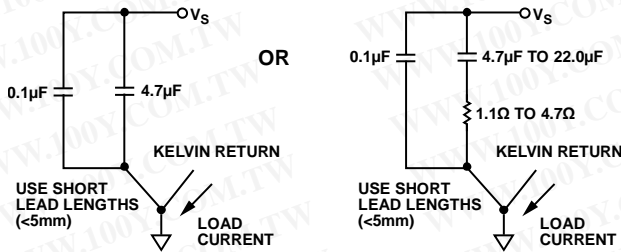

Figure 35. Recommended Power Supply Bypassing
*USE THE POWER SUPPLY BYPASSING SHOWN IN FIGURE 35.
Taking full advantage of the very wide bandwidth and dynamic range capabilities of the AD797 requires some precautions. First, multiple bypassing is recommended in any precision application. A 1.0 μF to 4.7 μF tantalum in parallel with 0.1 μF ceramic bypass capacitors are sufficient in most applications. When driving heavy loads, a larger demand is placed on the supply bypassing. In this case, selective use of larger values of tantalum capacitors and damping of their lead inductance with small-value (1.1 Ω to 4.7 Ω) carbon resistors can achieve an improvement. Figure 35 summarizes power supply bypassing recommendations.
**USE THE POWER SUPPLY BYPASSING SHOWN IN FIGURE 35.